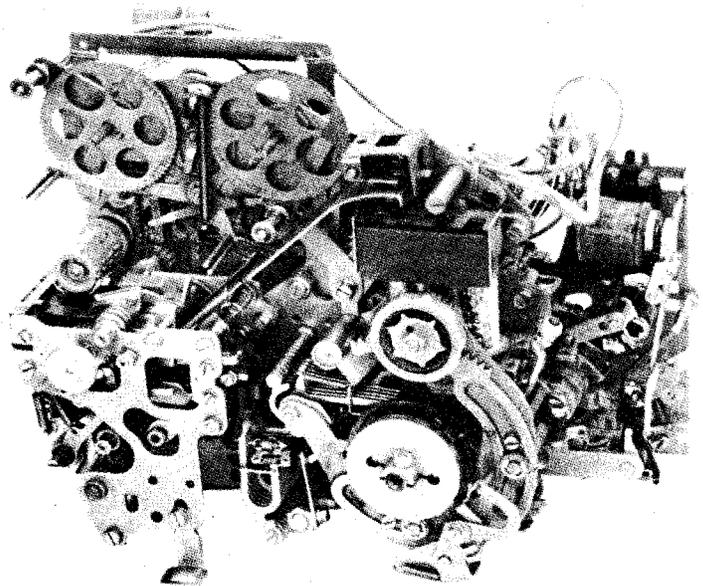

Figure 1 - Typical 35 Typing Reperforator
1.01 This section provides adjustments and requirements for the 35 typing reperforator (Figure 1). It is reissued to include recent engineering changes and additions. Since this is a general revision, marginal arrows ordinarily used to indicate changes and additions have been omitted.